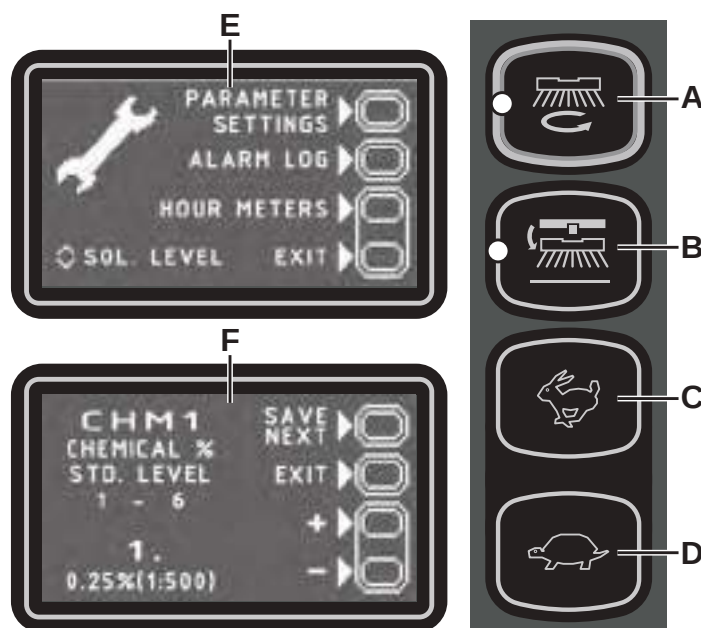

Figure 8
Main Screen (E, Fig. 8)
To return to the main screen (E, Fig. 8), press push-button (A) repeatedly.
To return to the main screen (E, Fig. 8), press push-button (A).